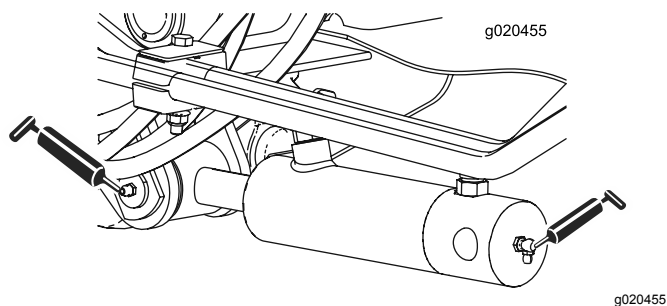

Figure 66
- 2 (each side) lift-arm-cylinder bushings (Figure 66)